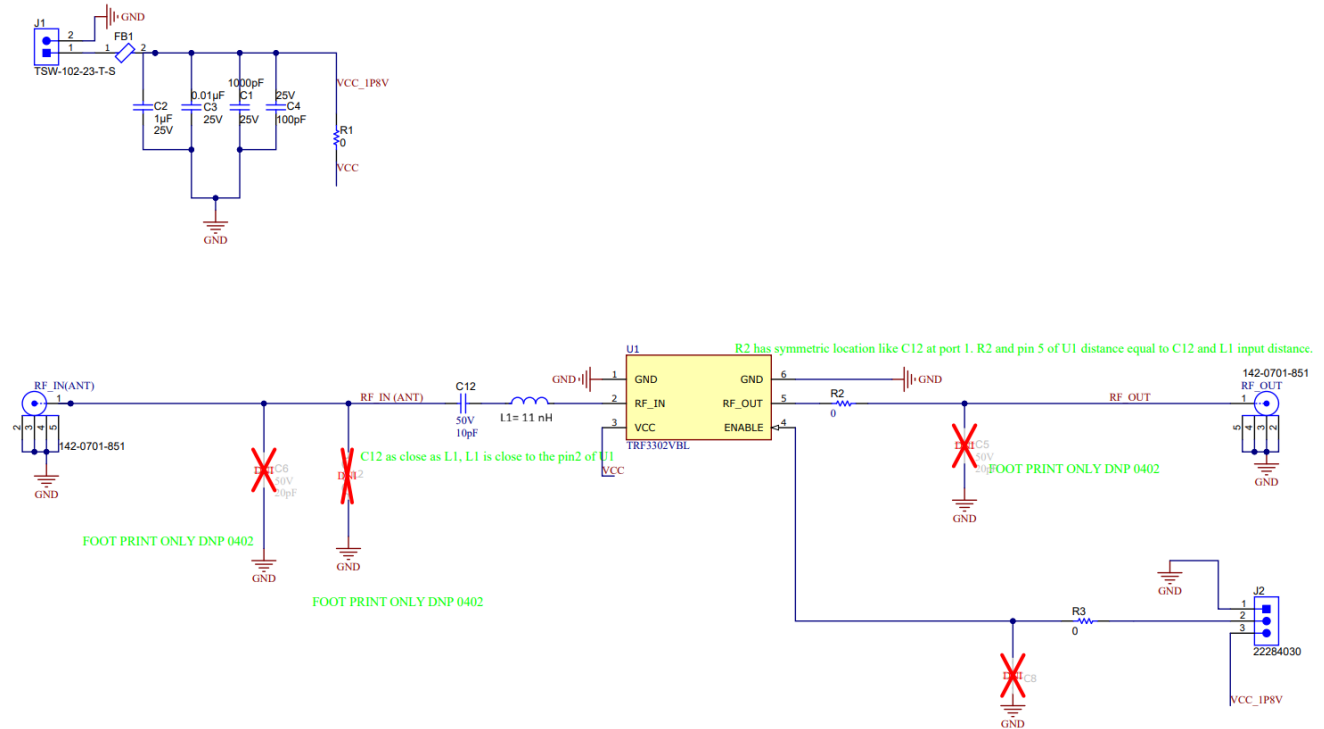

Figure 3-2. TRF3302EVM Schematic for L2/L5 Bands
3. Additional three L1 = 11nH inductors are provided with the EVM kit to replace L1 and optimize the TRF3302 to support 1165 to 1320MHz (L2/L5 band) as shown in Figure 3-2.